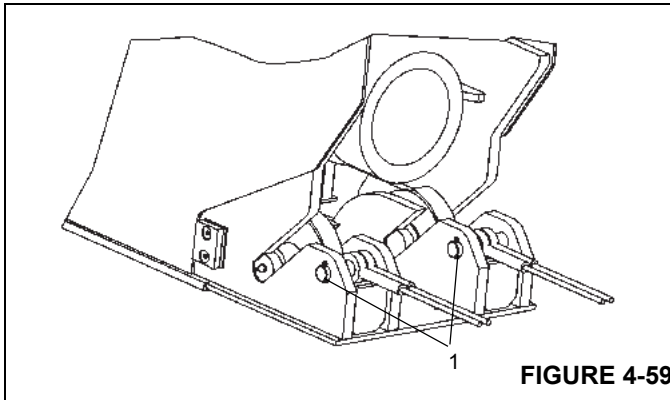

FIGURE 4-59
a. Lubricate and install pin through cable ends. Secure pin (Figure 4-59, 1) with cotter keys.